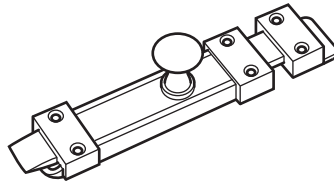

Fig. 1
- 1 Fig. 1 shows a door bolt made from steel for use in a bathroom. The bolt has a chrome finish.